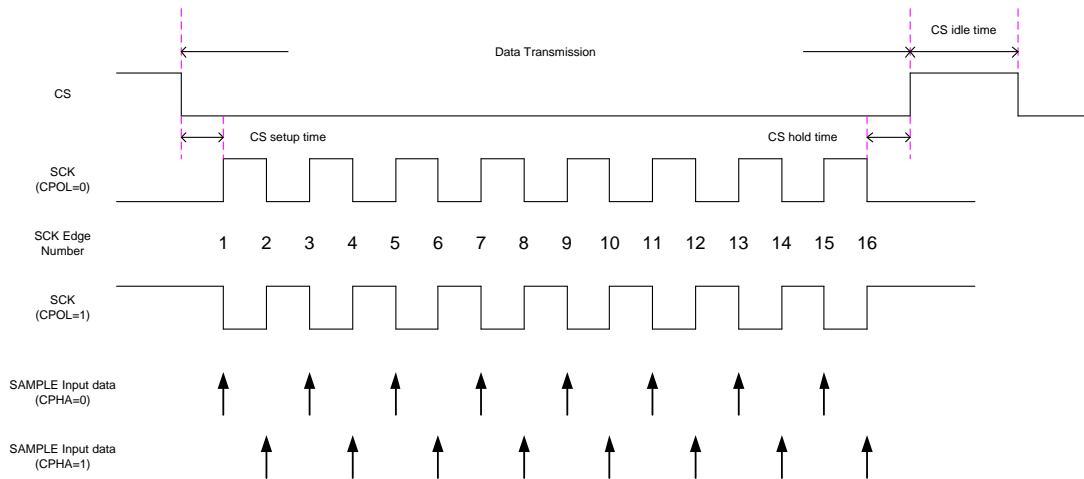

Figure 6.1-1. SPI transmission formats
- The SCK frequency supports maximum 48MHz with CPOL and CPHA features and can be configured as 96/N MHz (where N is from 2 to 2¹⁷) for different applications. CPOL defines the clock polarity in the transmission. CPHA defines the legal timing to sample data. The chip select (CS) signal setup time, hold time and idle time can be configured, too. The detailed timing diagram of the SCK and CS signals is shown in Figure 6.1-1.